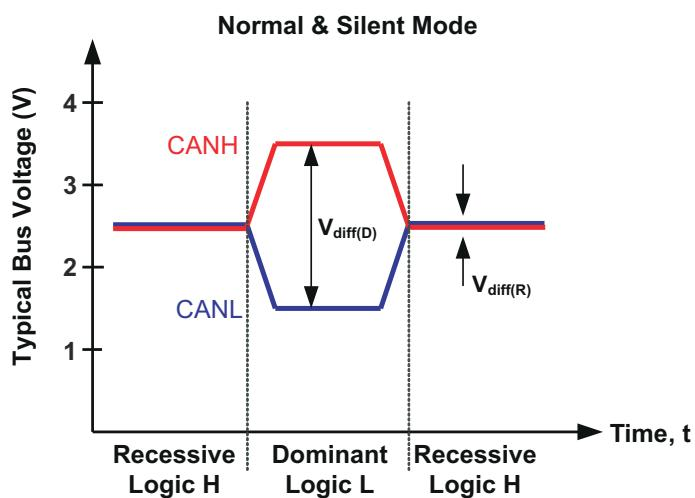
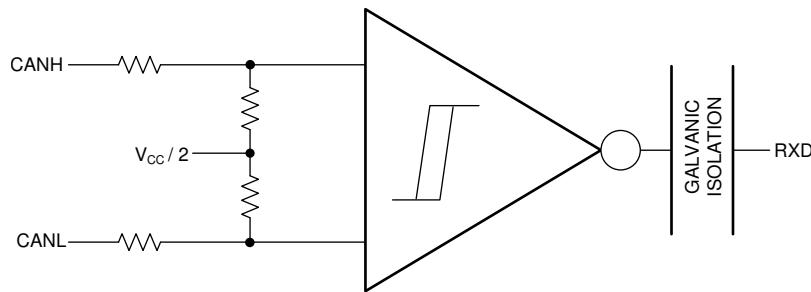

Figure 8-1. Bus States (Physical Bit Representation)
Figure 8-2. Simplified Recessive Common Mode Bias and Receiver
The CAN bus has two states during operation: *dominant* and *recessive*. A dominant bus state, equivalent to logic low, is when the bus is driven differentially by a driver. A recessive bus state is when the bus is biased to a common mode of $V_{CC} / 2$ through the high-resistance internal input resistors of the receiver, equivalent to a logic high. The host microprocessor of the CAN node will use the TXD pin to drive the bus and will receive data from the bus on the RXD pin. See Figure 8-1 and Figure 8-2.
(1) H = high level, L = low level, Z = common mode (recessive) bias to $V_{CC} / 2$. See Figure 8-1 and Figure 8-2 for bus state and common mode bias information.